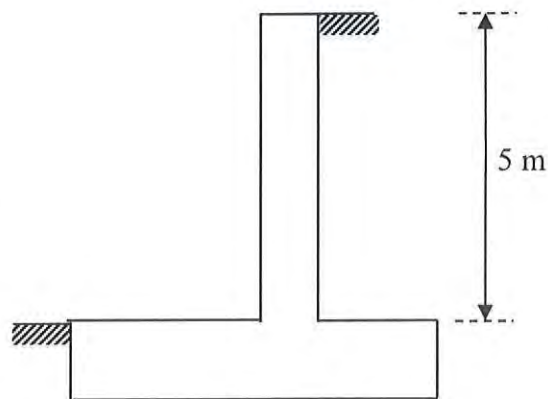

Figure 2. Retaining wall
- b. A cantilever retaining wall of an artificial lake is shown in **Figure 2**. Density of soil beside the wall is 1700 kg/m^3 , active soil pressure coefficient is 0.33, soil is saturated with water (void ratio of the soil is 50%). Deflection of the wall is required to be controlled. Apply the concept to design the wall with optimal thickness in accordance to BNBC 2020. Concrete strength (f_c') could be used as 24 N/mm^2 .